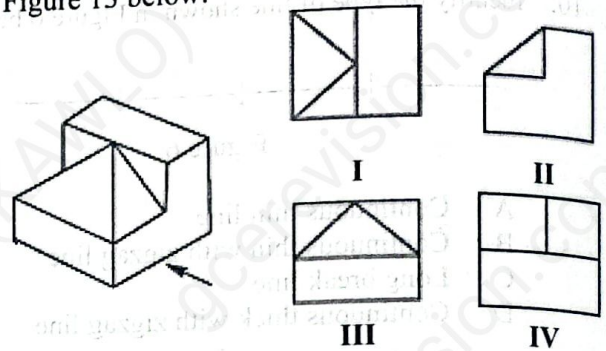

Figure 13
20. Identify the top view among the list of views in Figure 13 below.